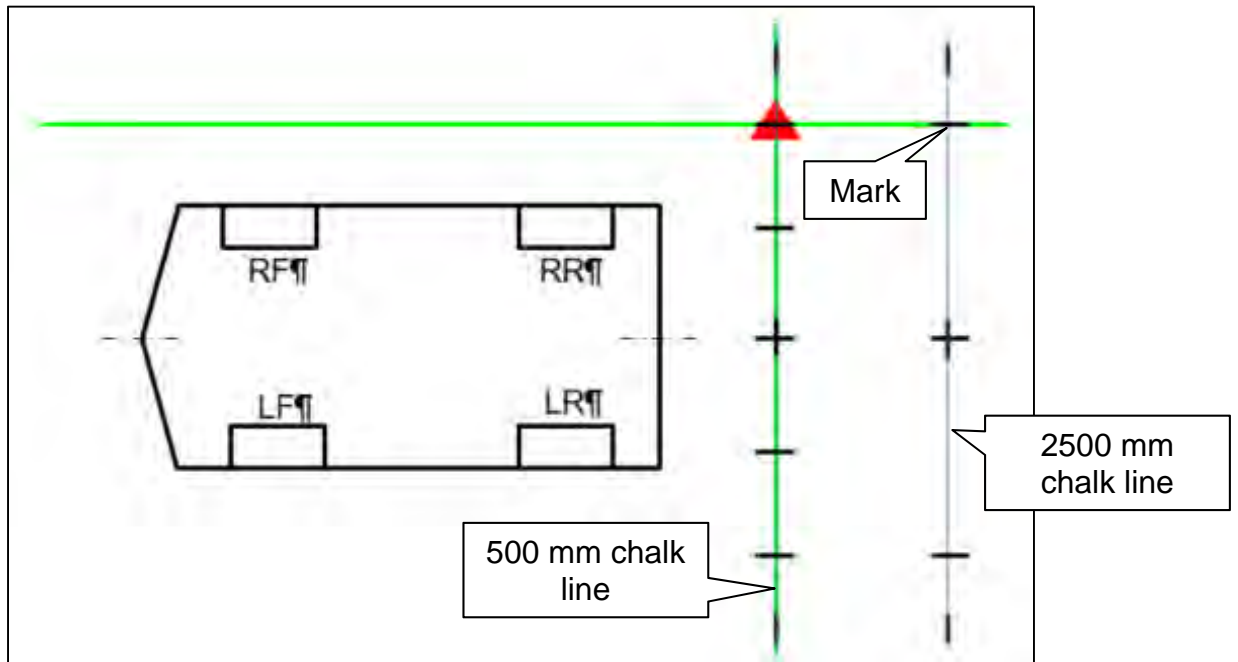
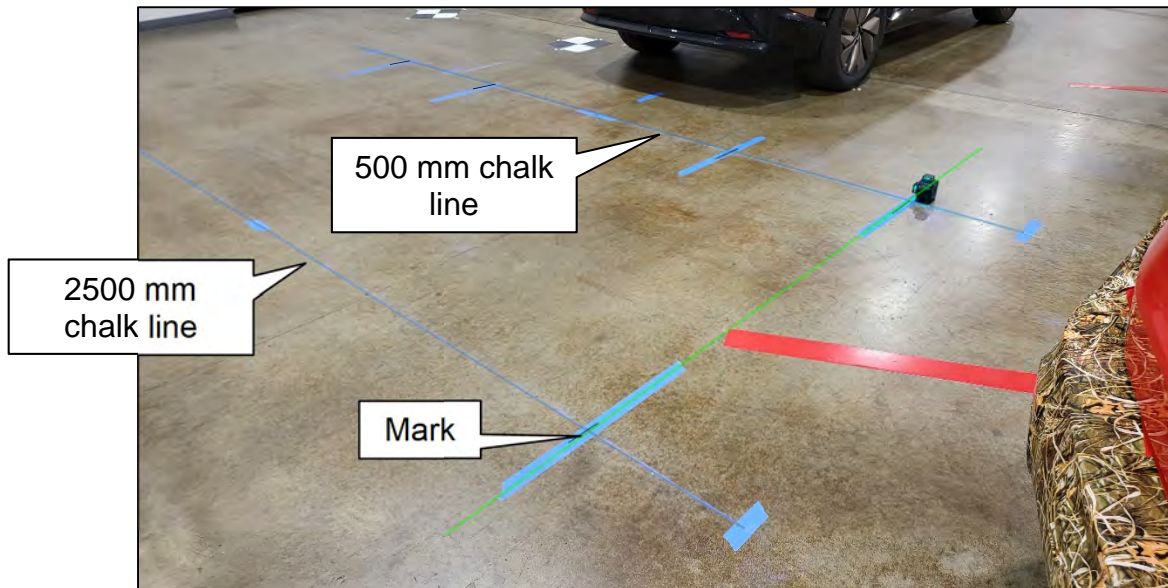

Figure 81
Figure 82
58. Move the laser level to the position shown in Figure 81, and then make a mark on the 2500 mm chalk line, as shown in Figure 81 and Figure 82.